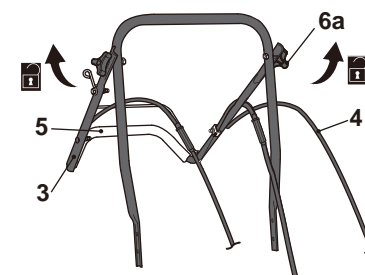

Fig. 2
2. Ensure that the levers (6a) are released and unfold the upper (3) and lower handle bar (5) (Fig. 2).